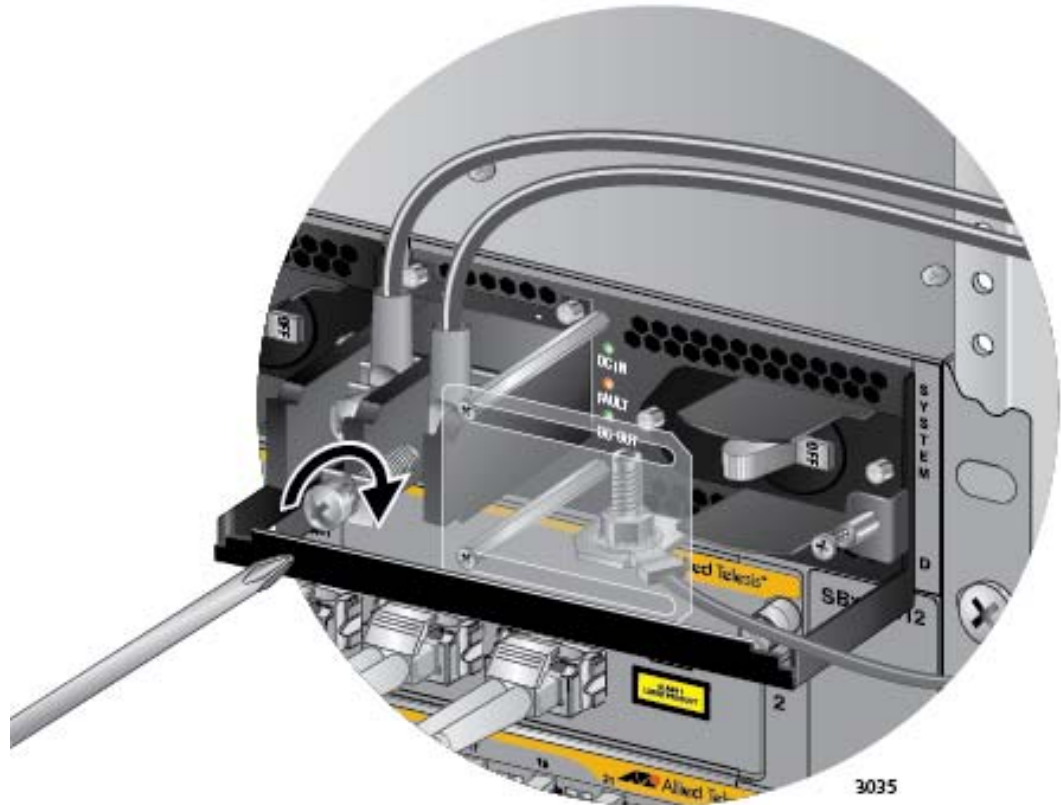

Figure 126. Connecting the Negative (-) Power Wire with a Straight Terminal
7. With a #3 Phillips-head screwdriver, connect the negative (-) power lead wire to the negative terminal on the power supply, with the remaining terminal screw removed in step 5. The negative terminal is on the right. You may attach the terminals with the wires either above or below the terminal block. Figure 126 on page 193 shows the wires above the terminal block.